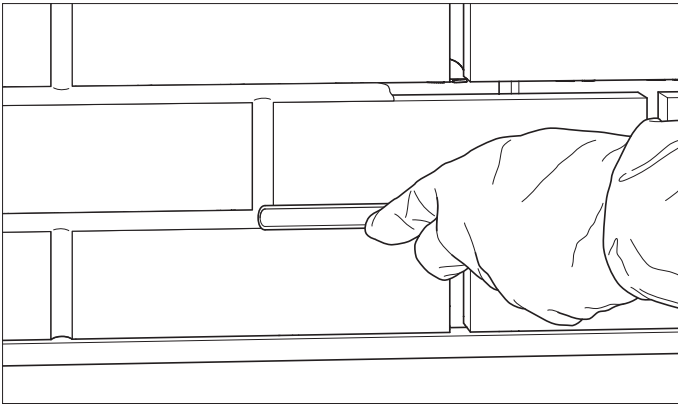

FIGURE 18
- Common practice suggests striking the vertical (head) joints first, followed by the horizontal (bed) joints so that the horizontal joint shows a consistent profile. Striking may be accomplished by either pushing forward with the back side (heel) of the jointer or pulling backward with the front side of the jointer (see Figure 18). All joints must be completely filled. If necessary, mortar struck from the wall may be used to fill small voids.